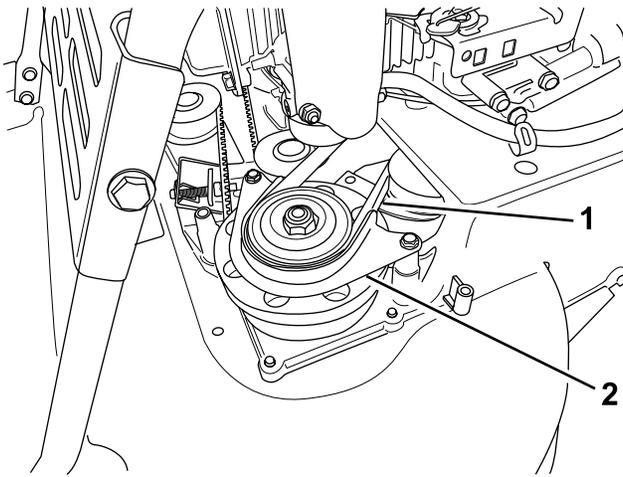

Figure 46
7. Remove the BBC belt guard (Figure 46).